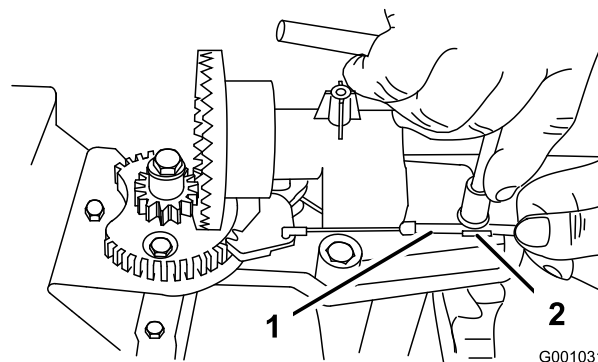
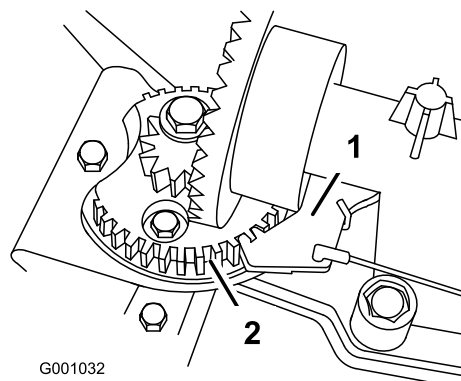

Figure 61
Figure 62
2. Loosen the bolt on the cable clamp (Figure 61).
3. Grasp the cable conduit and move it toward the front of the machine until the discharge chute latch fully engages the gear teeth (Figure 61 and Figure 62).
Note: The latch is spring loaded and will naturally move into the teeth of the gear (Figure 62).